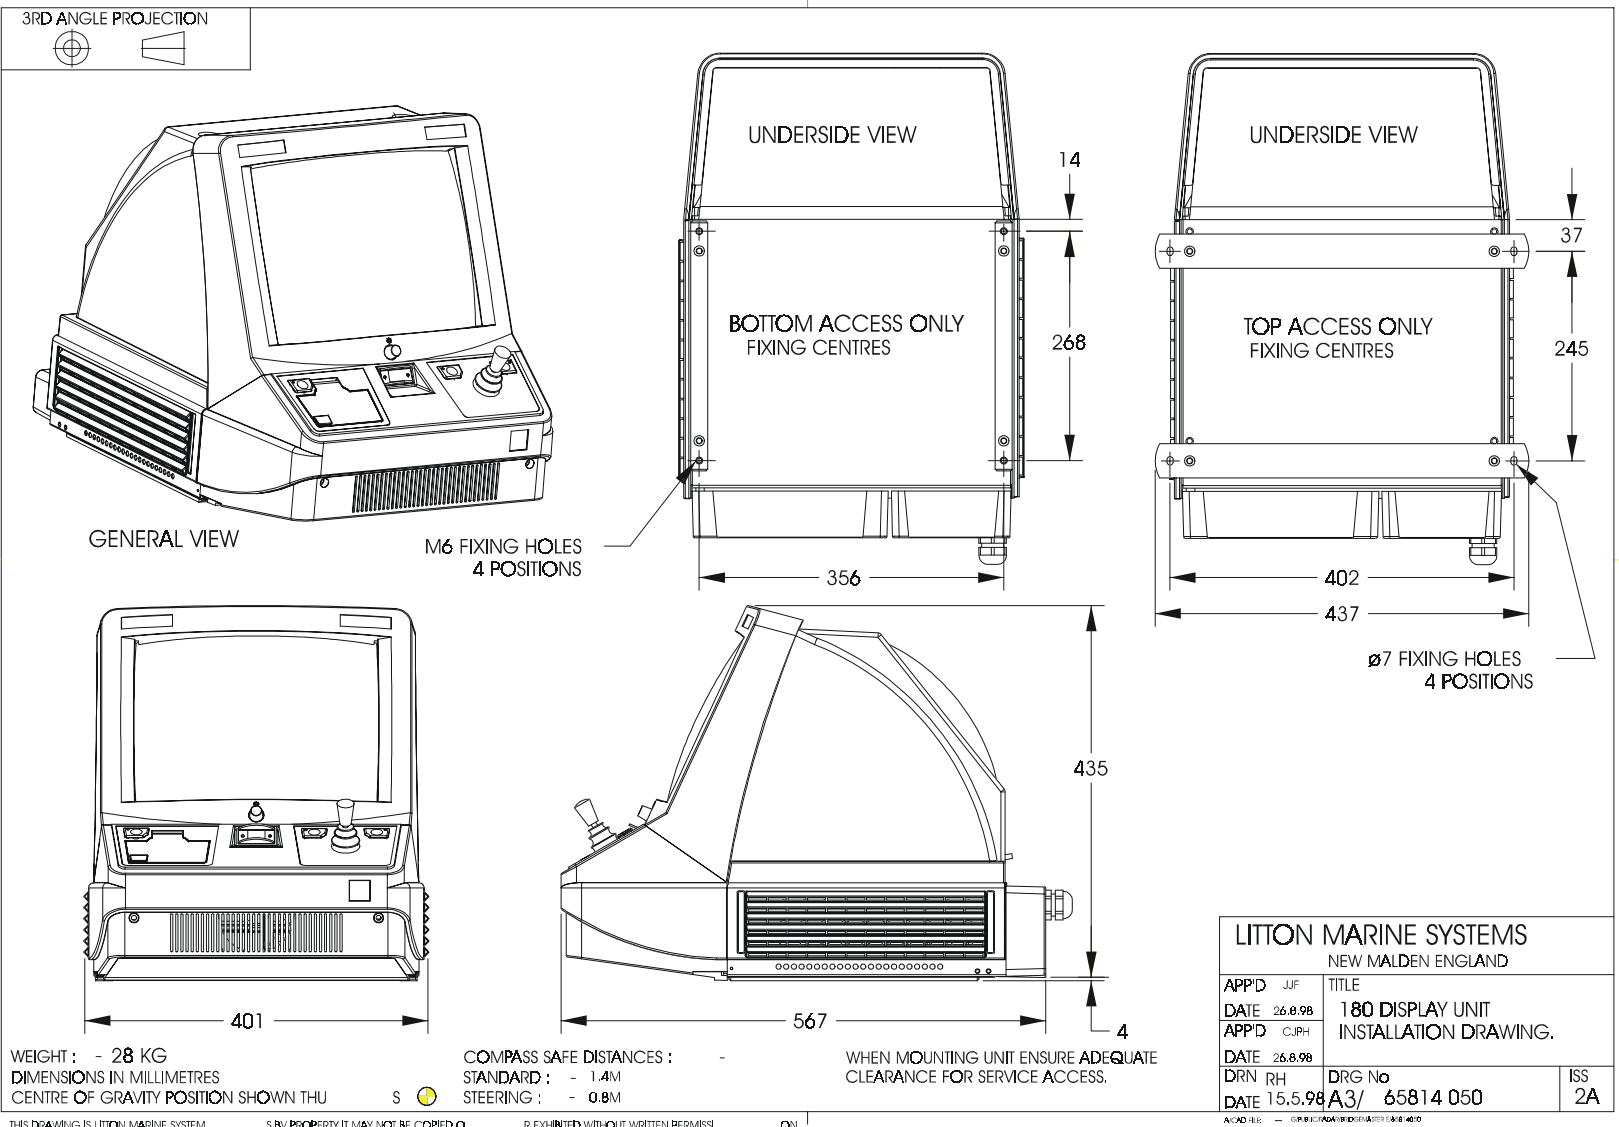

Figure 3.1 - 180 Display Unit Installation Drawing
The 180/250 Display Units comprise a monitor unit and a Processor Electronics Unit (PEU) fitted in a free-standing housing suitable for desk-mount operation, see Figures 3.1 and 3.2.
- Refer to Figures 3.1 for installing a 180 Display Unit.